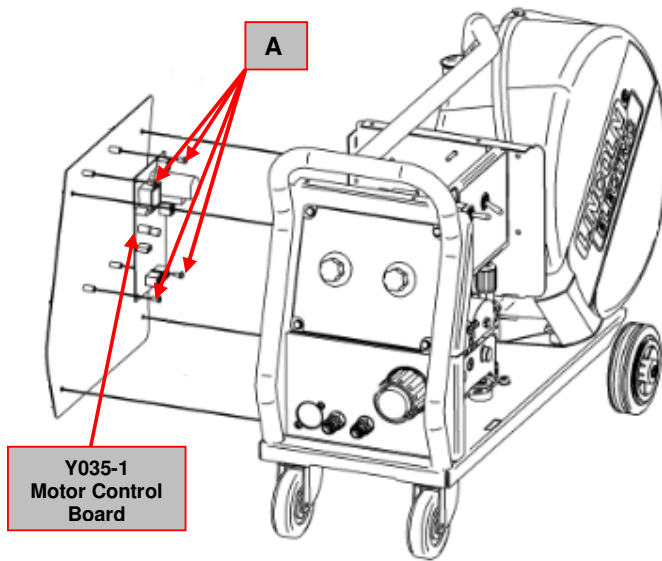

Figure 5
3. Locate the Motor Control board. See **Figure 5**